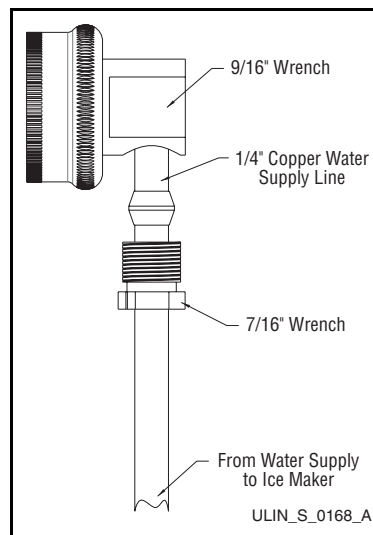

Figure 78
2. Locate the U-Line supplied garden hose fitting. Ensure the end of the copper tubing has been cut straight and free of burrs. Slide the compression nut and ferrule onto the copper tubing as shown (**Figure 78**). Push the assembly completely into the the garden hose fitting and tighten using the two wrenches. Wait to connect this assembly to the appliance until the drain connection is ready.